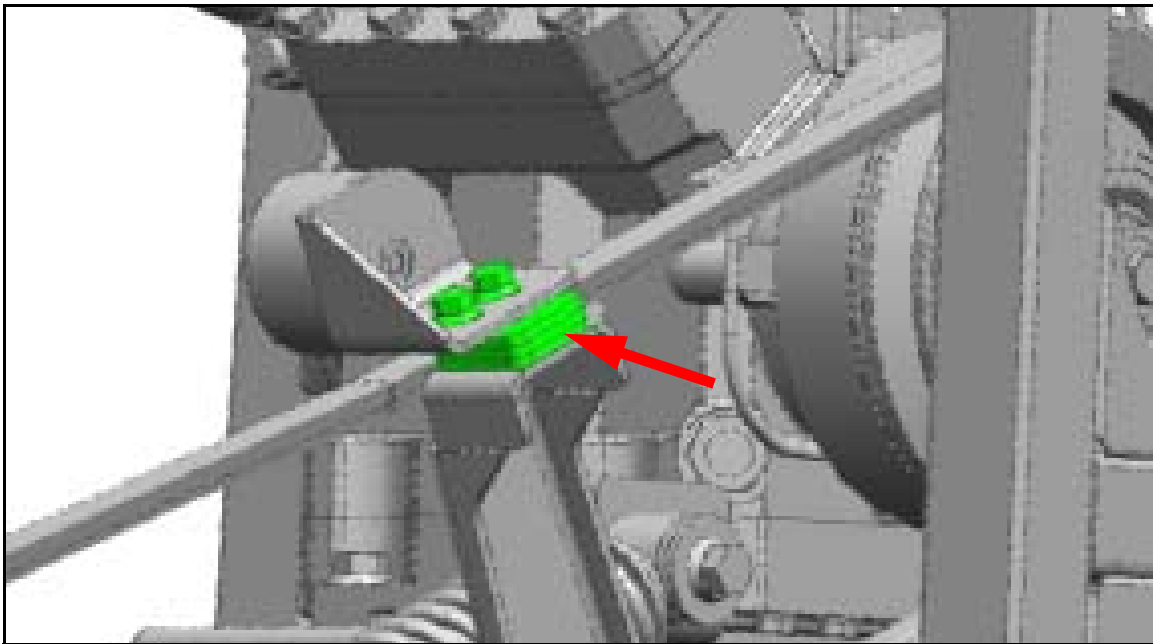

Figure 5. Addition of shim(s) to achieve a 3/8 inch belt deflection.
9. Remove the capscrew, p/n 19-01-1570 and lock nut, 19-03-0535 mounting the idler pulley to the snubber bracket. Orient and position the shims, p/n 08-27-1324, between the idler pulley bracket and the snubber bracket (refer to Figure 5).